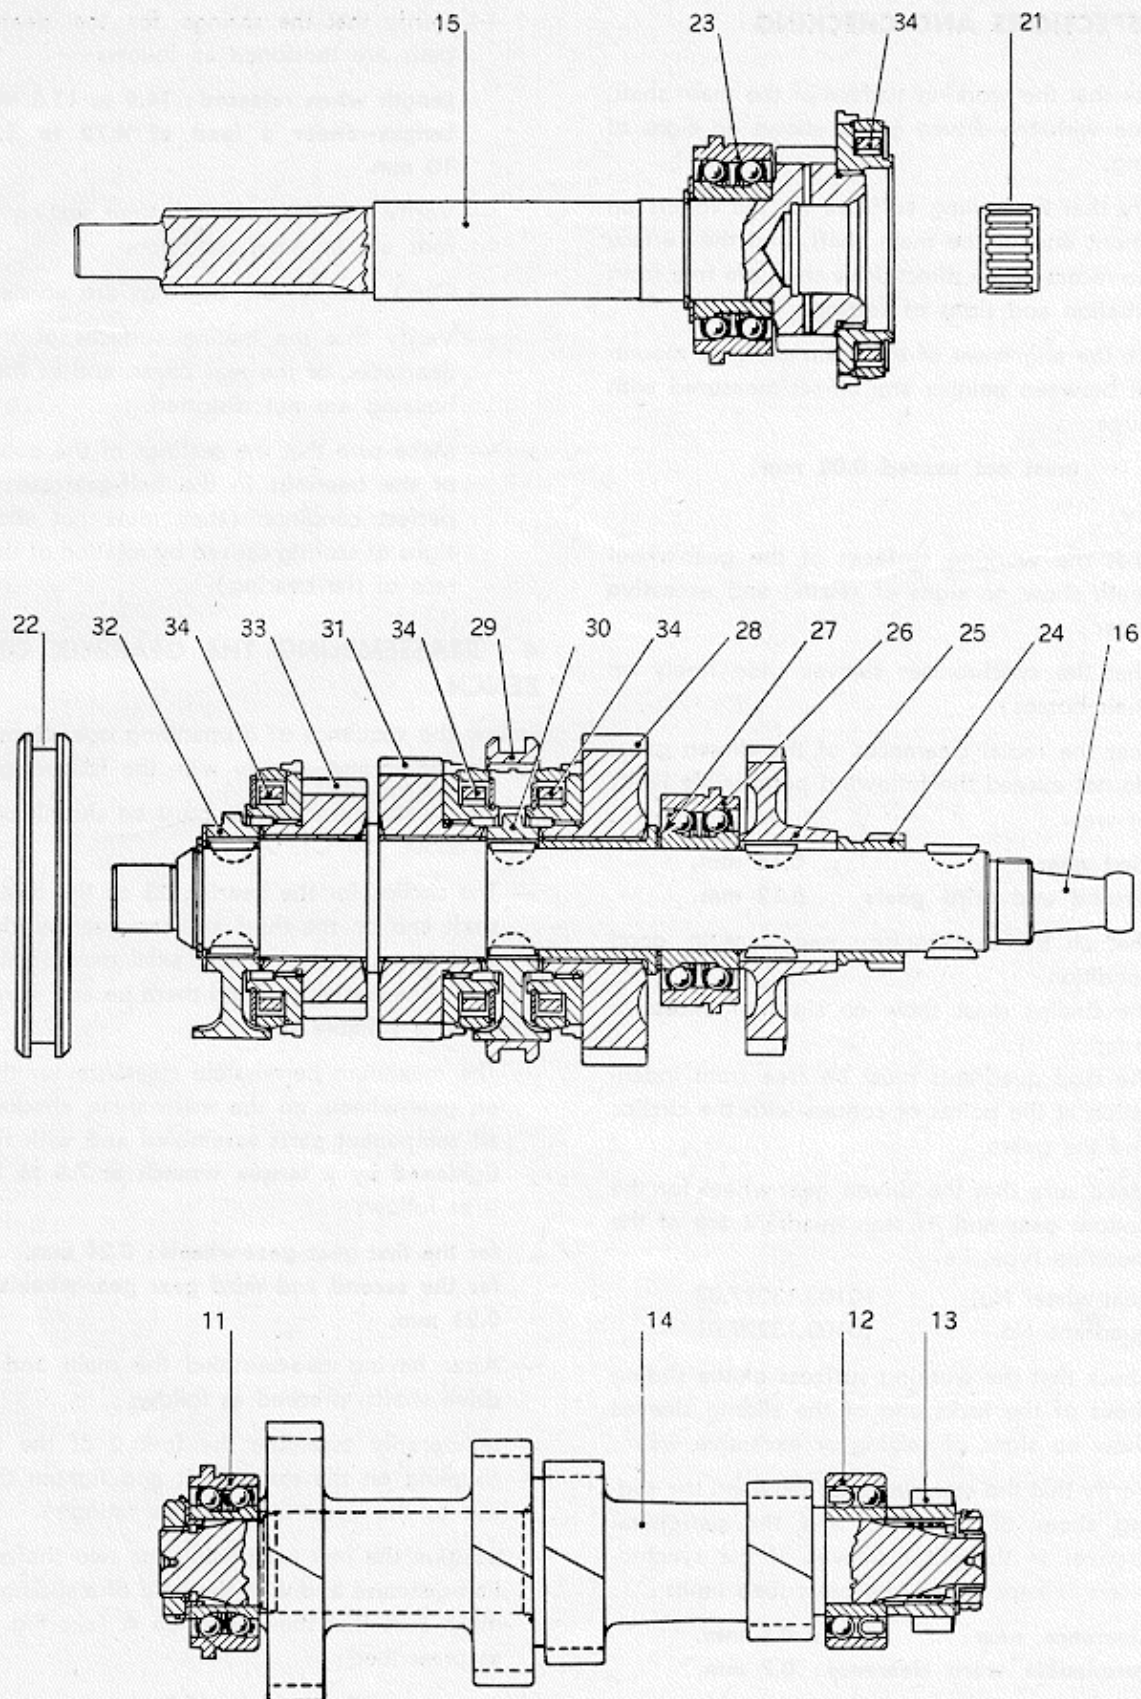

Fig. 26 - Direct-drive, main, and lay shafts
b) Dismantling the direct-drive shaft (See Fig. 26).
c) Dismantling the main shaft 16 (See Fig. 26).
d) Dismantling the layshaft 14. (See Fig. 26).